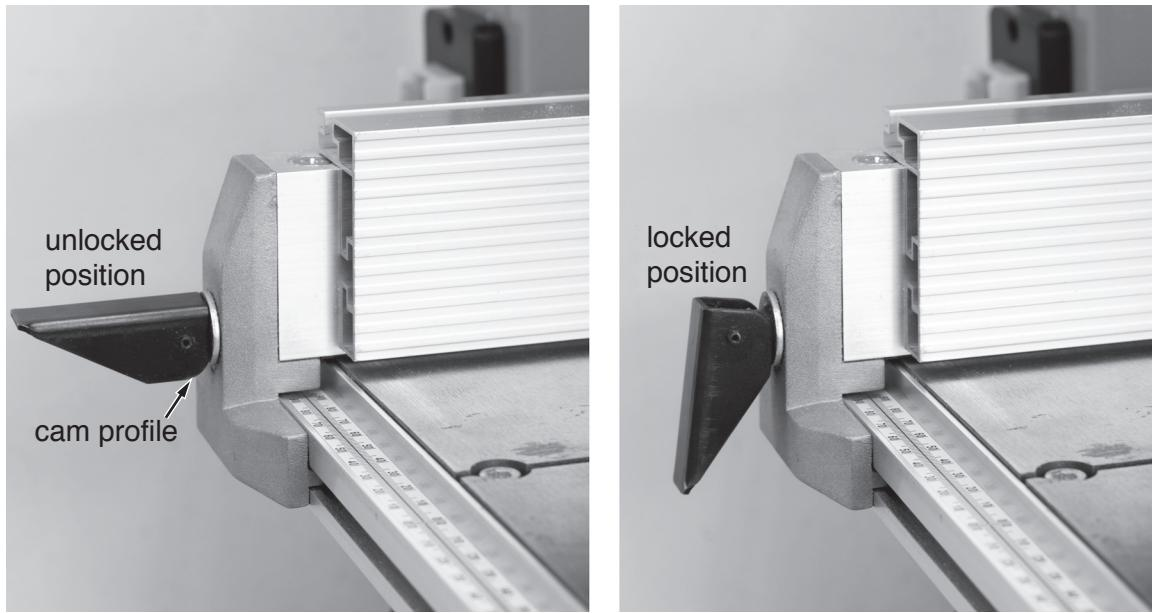

Fig. 14
- (v) The guide fence for the saw is held securely in place by a cam lever shown in Fig. 14.